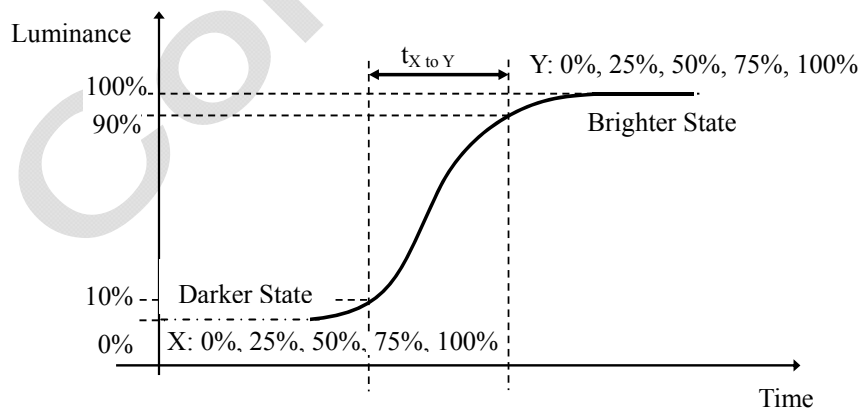

Fig. 7.4 The definition of $t_{X \text{ to } Y}$
(3) Response time T_L is defined as the average transition time in the response time matrix. The table below is the response time matrix in which each element $t_{X \text{ to } Y}$ is the transition time from luminance ratio X to Y. X and Y are two different luminance ratios among 0%, 25%, 50%, 75%, and 100% luminance. The transition time $t_{X \text{ to } Y}$ is defined as the time taken from 10% to 90% of the luminance difference between X and Y ($X < Y$) as illustrated in Fig.7.4. When $X > Y$, the definition of $t_{X \text{ to } Y}$ is the time taken from 90% to 10% of the luminance difference between X and Y. The response time is optimized on refresh rate $F_r = 60\text{Hz}$.